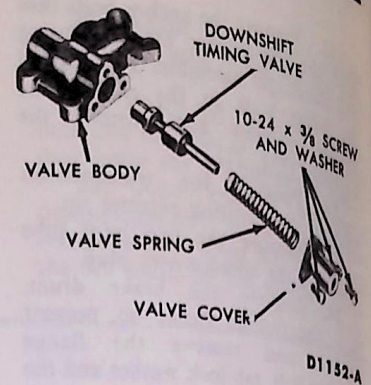

FIG. 24 Downshift Timing Valve
1. Remove the downshift timing valve cover (Fig. 24).